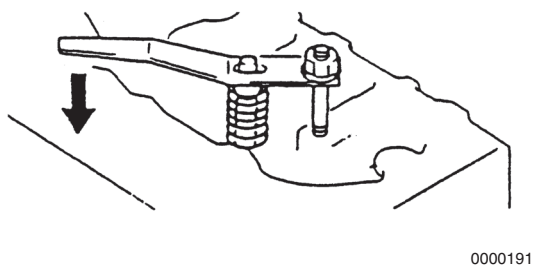

Figure 6-45
2. Using the valve spring compressor tool, compress one of the valve springs (Figure 6-45).